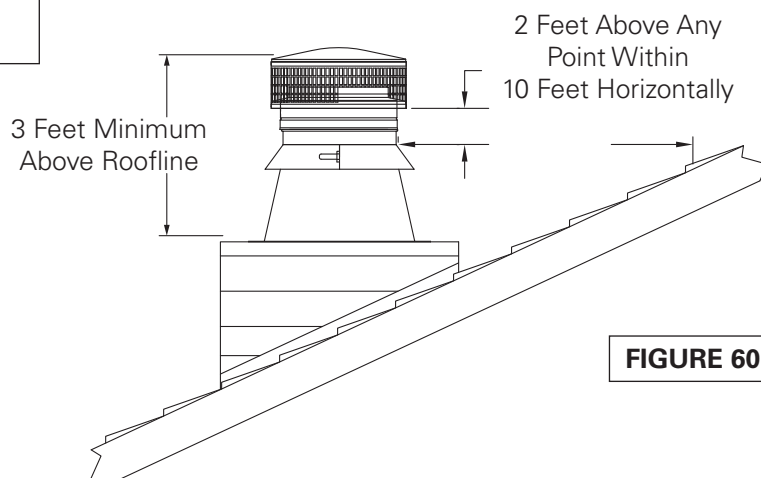

FIGURE 60
10. Termination: NFPA 211, "Standard for Chimneys, Fireplaces, Vents, and Solid Fuel-Burning Appliances," states that chimneys shall extend at least three feet above the highest point where it passes through the roof of a building, and at least two feet higher than any portion of a building within ten feet. **(Figure 60)**